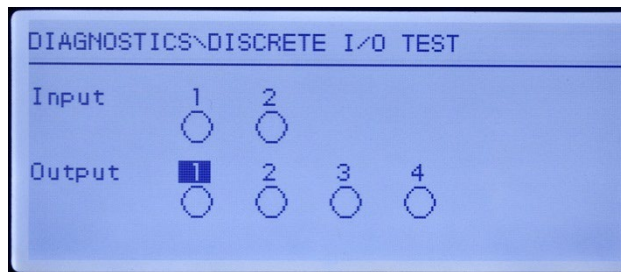

Figure 5-12: Discrete I/O Test Screen
2. Press ENTER to continue to the diagnostic screen. When viewing the test screen, the input status will be shown at the top of the display and the output status will be shown at the bottom of the display (Figure 5-12). Focus is shown on Output #1 first.